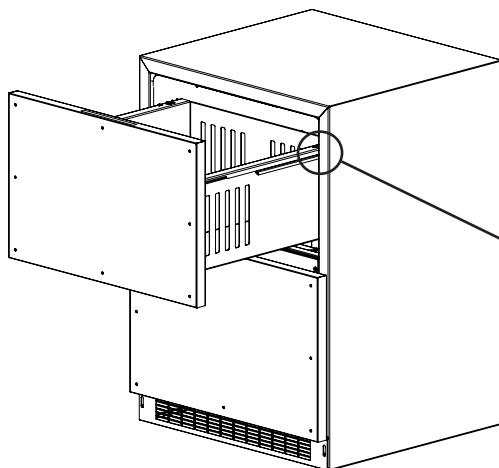
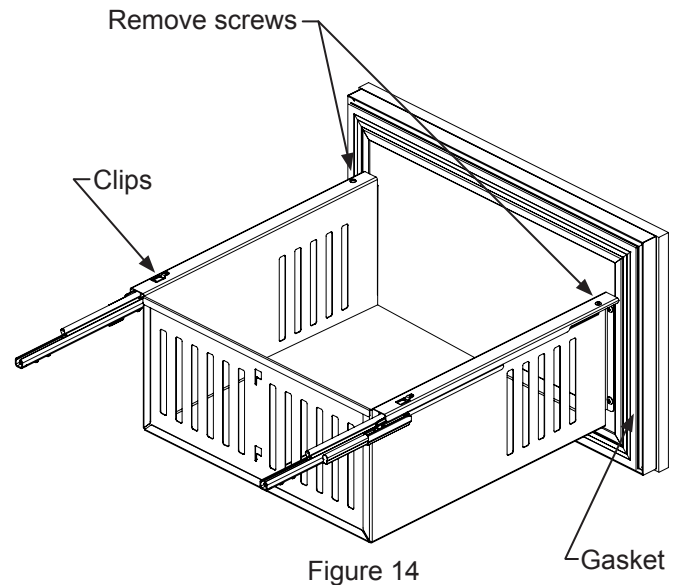
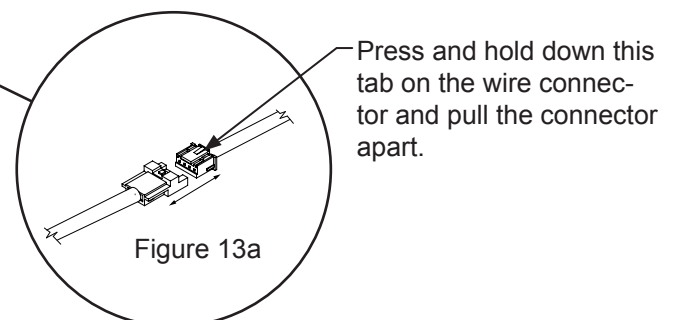
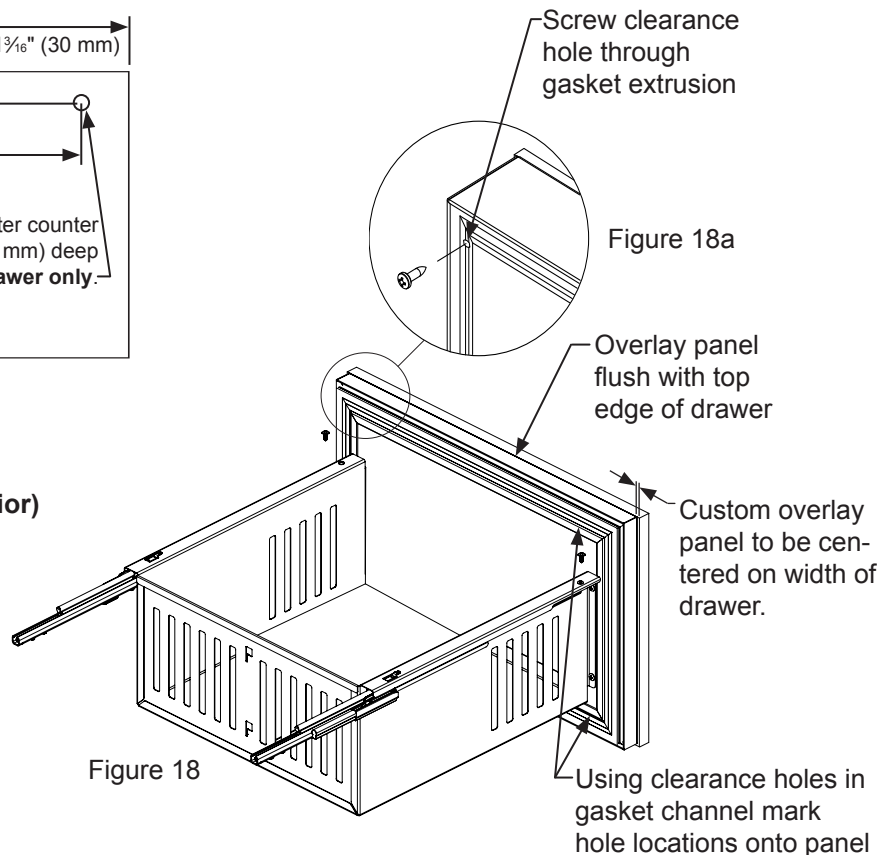

Figure 13
Figure 14
Figure 13a
Figure 18
1. Begin by pulling out the top drawer. (See Figure 13). Remove screws securing drawer to slides (See Figure 14). Pull drawer forward, lift up and out to clear clips in rear of drawer. Move drawer forward about 1" (2.5 cm) and set down on slides. At the right rear corner of the drawer disconnect the display wire harness (See Figure 13a). Remove the drawer from the unit by lifting up off of the slides. Repeat for bottom drawer but disregard the harness instructions as there is no wiring to the bottom drawer.
2. Remove the gasket from the drawer front. (See Figure 14). Do this by pulling the gasket out of the channel that holds it to the drawer front. This will expose the clearance holes for mounting the overlay panel. (See Figure 18).
1. Set the overlay panel on drawer front face and align edges. (See Figure 18). The custom overlay panel should be flush with the top of the drawer and centered on the width of the drawer. Clamp panel in position and mark pilot hole locations. Pick the required pilot hole size from "Table B" below and drill the pilot holes ensuring not to drill all the way through the overlay panel.